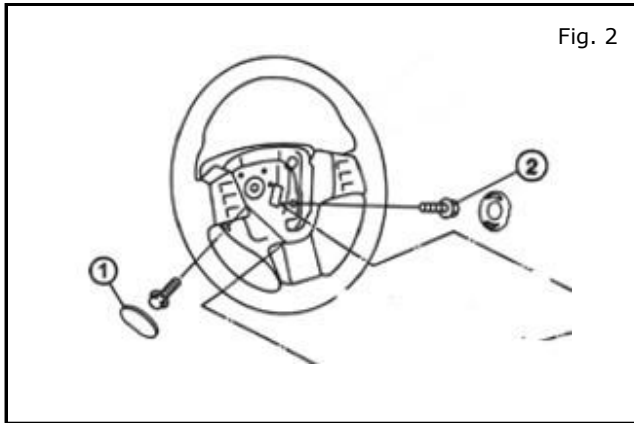

Fig. 2
- a) Remove one of side access cover from side of steering wheel hub. Anti theft Air bag bolt can be install in either 1 or 2 location shown in Fig.2